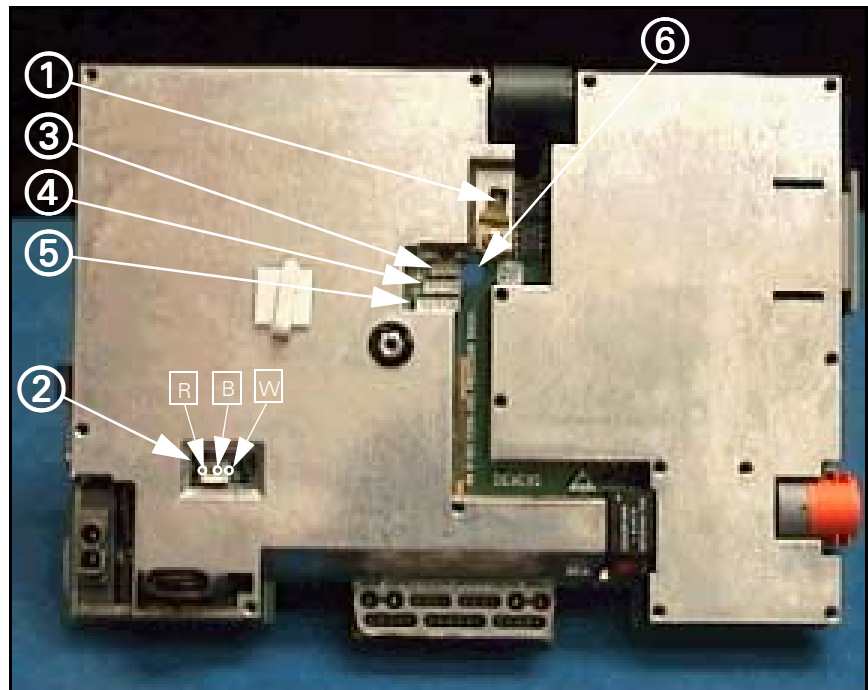

Figure 3-14 Connector Locations on Main Processor Subassembly
6. Unplug ground connector (① in Figure 3-14) above hole through which NBP tubing was removed), to permit better access to cable connectors plugged into main processor board.
7. As carefully as you can in the limited area of access, unplug red/black/white main power cable connector (② in Figure 3-14), 2-wire black/white NBP engine pump cable in 3-pin connector (③ in Figure 3-14), 4-wire black/white/black/white valves cable in 4-pin connector (④ in Figure 3-14), and 4-wire red/orange/yellow/black ID chip cable in 5-pin connector (⑤ in Figure 3-14) from main processor board.
Observe proper polarity to avoid damage to the Main board. Refer to Figure 3-14. Orient the connector so that the red wire plugs into [R] and the black wire into [B].
2. Then plug in following cables into main processor PC board connectors in sequence listed. Refer to Figure 3-14.
- a) 4-wire red/orange/yellow/black ID chip cable in 5-pin connector (⑤)
- b) 4-wire black/white/black/white valves cable in 4-pin connector (④)
- c) 2-wire black/white NBP engine pump cable in 3-pin connector (③)
- d) ground cable connector into terminal lug (①) above hole for NBP tubing
4. Route NBP tubing through hole provided in main processor board (⑥ in Figure 3-14).